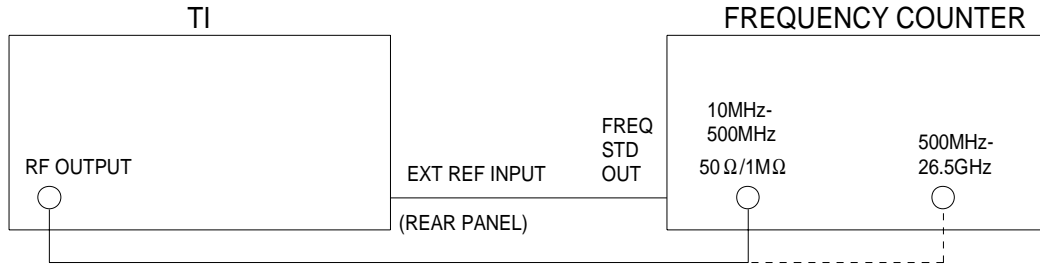

Figure 1.
4.1.3 Connect equipment as shown in Figure 1. Remove TI FREQ STANDARD jumper so that the connection can be made to the EXT REF INPUT connector.
* Connect TI RF OUTPUT to Frequency Counter 500MHz - 26.5GHz Input, as per dotted line in Figure 1.